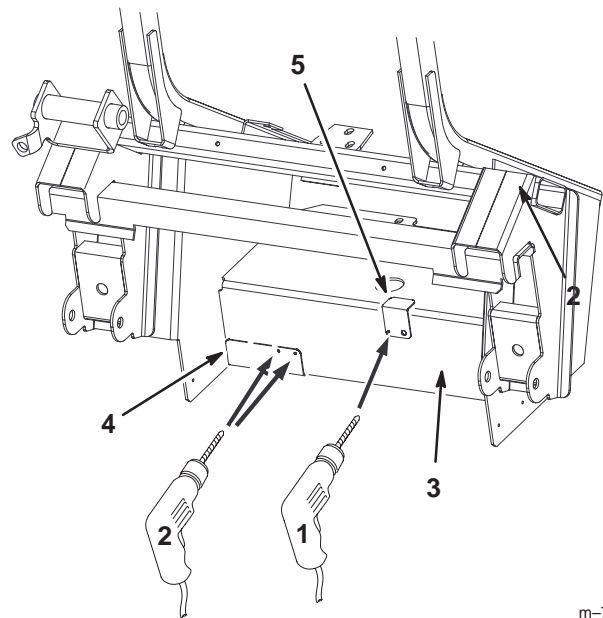

Figure 16
8. Drill three 1/8 inch pilot holes into the frame (Fig. 16).
10. Drill 2 holes, 11/32 inch diameter, into the 1/8 inch pilot holes from the tensioner bracket template (Fig. 16).
11. Drill 1 hole, 9/32 inch diameter, into the 1/8 inch pilot holes from the eyebolt template (Fig. 16).